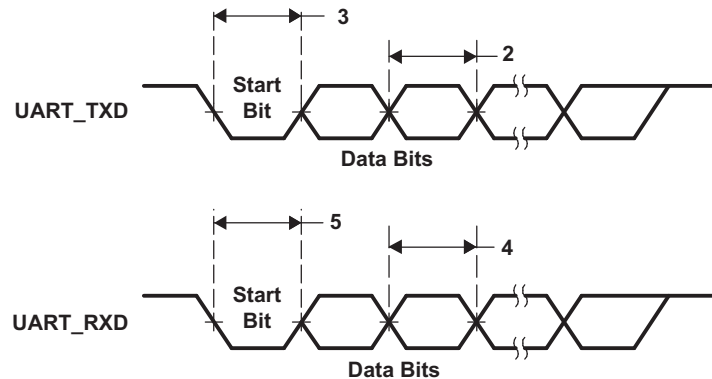

Figure 6-28. UART Transmit/Receive Timing
Table 6-31. Timing Requirements for UART Receive(1)(2) (see Figure 6-28)
- (1) U = UART baud time = 1/programmed baud rate.
- (2) These parametric values are measured at DVDDIO = 3.3 V, 2.75 V, and 2.5 V
Table 6-32. Switching Characteristics Over Recommended Operating Conditions for UART Transmit(1) (2) (see Figure 6-28)